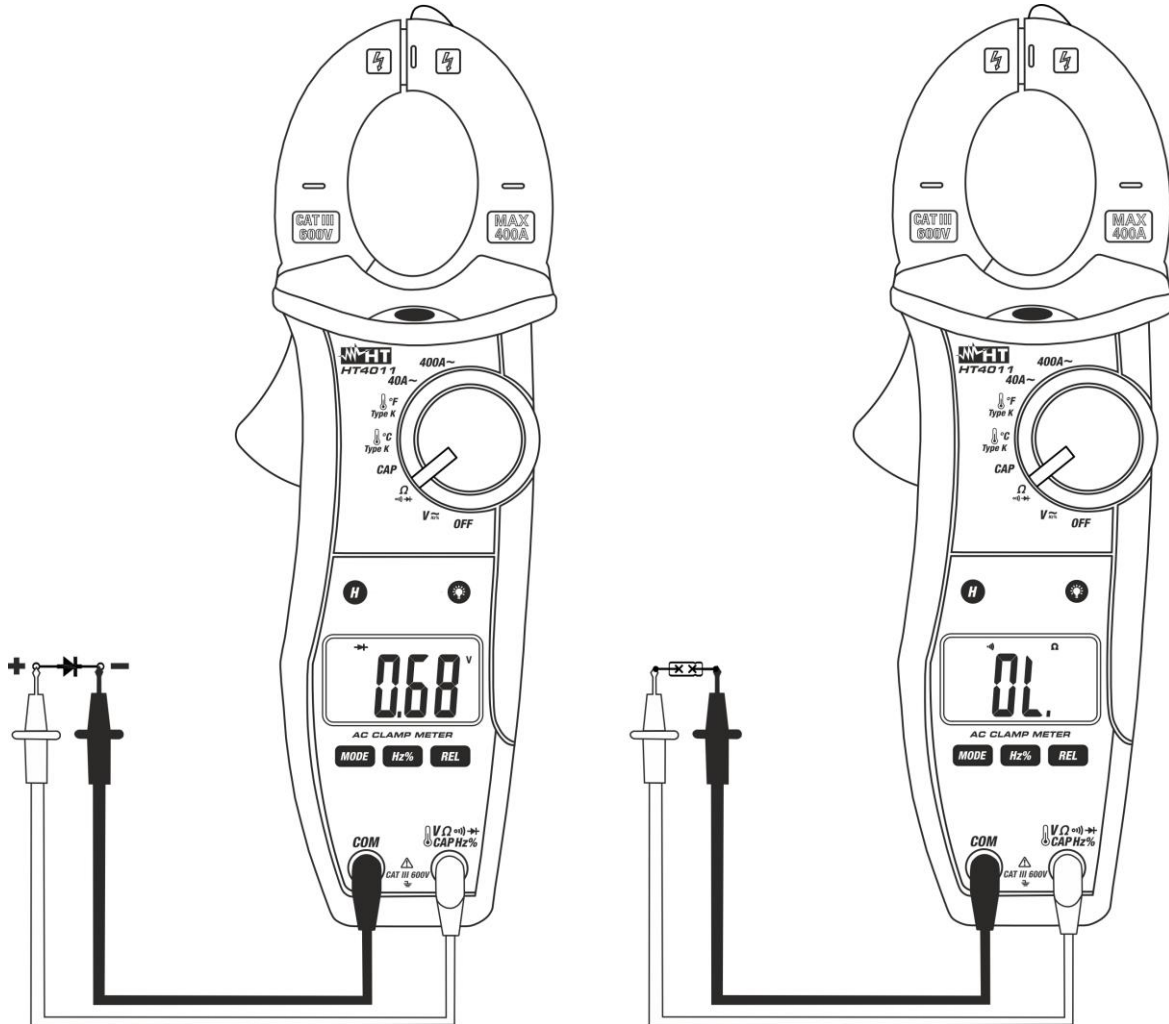

Fig. 7: Use of the clamp for continuity test and diode test
3. Insert the red cable into input terminal $V\Omega \rightarrow$ and the black cable into input terminal **COM** and carry out the continuity test of the object to be measured (see Fig. 7– right side). A buzzer sounds when the measured value of resistance is lower than 150 Ω
5. Connect the red lead to the anode of the diode and the black lead to the cathode in case direct polarization measurement is carried out (see Fig. 7 – left side). Invert the position of the leads in case reverse polarization measurement is carried out.